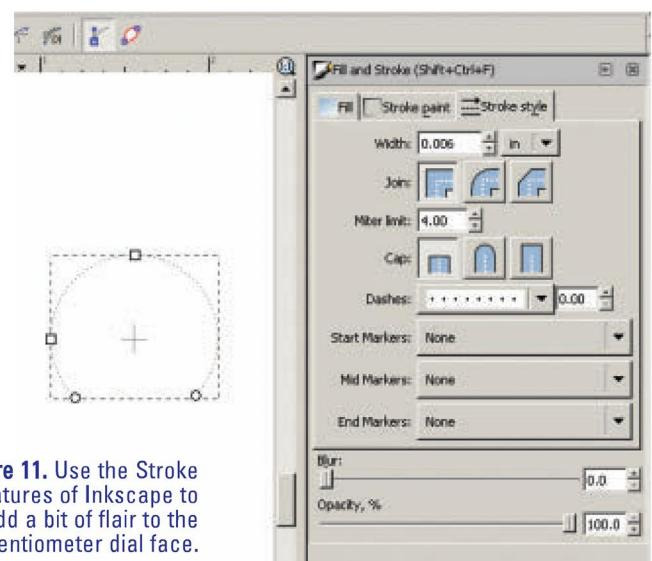

Figure 11. Use the Stroke style features of Inkscape to add a bit of flair to the potentiometer dial face.
4. Show the Fill and Stroke panel, and select white as the fill color. Click on the Stroke style tab, specify a stroke width of 0.5 px, and set the style to one of the dotted lines (**Figure 11**). This is just for looks, so pick one you like best.